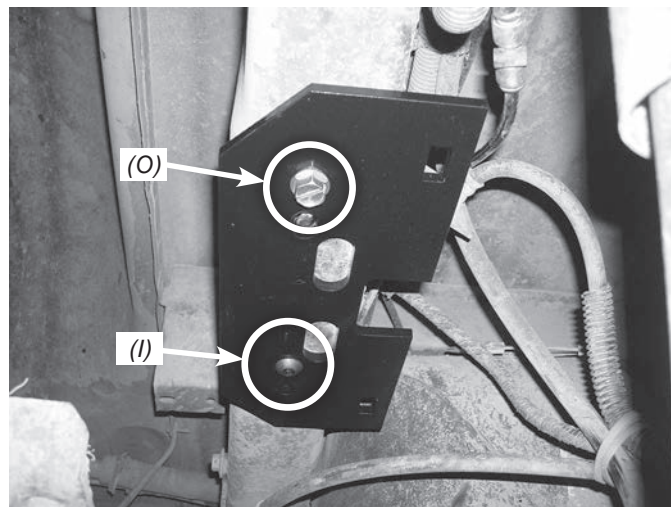

fig. 6
3. Insert and tighten a self-tapping bolt (O) into the hole drilled. Torque the bolt to 15 lb.-ft. (Fig. 6).
Figure 6 shows the upper bracket installed to the frame using the supplied M10 bolt (I) that was removed and a self-tapping bolt. **Use these only if the existing jounce bumper bolts break!**